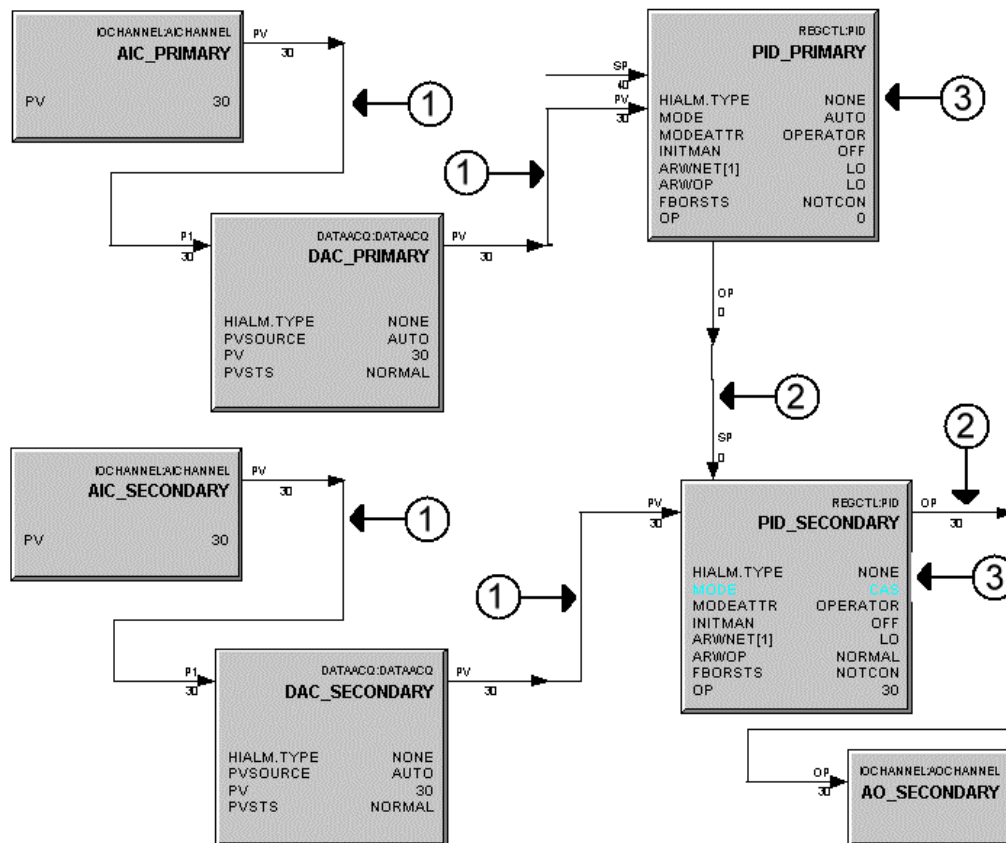

Figure 19 Example of CB configuration using two PID blocks for cascade loop control.
- Cascade PID Loop: Figure 19 and its companion callout description table show a sample configuration that uses two PID blocks to form a cascade control loop for quick reference. The view in Figure 19 depicts a loaded configuration in Monitoring mode.
The following table includes descriptions of the callouts in Figure 19.